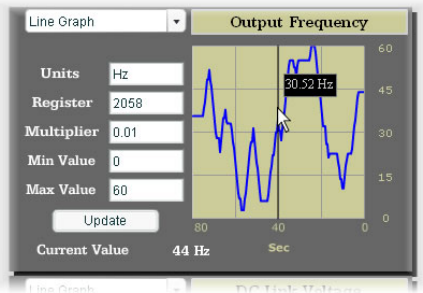

Figure 62: Line Graph
**Line Graph:** Refer to Figure 62. This type of graph implements a continuously-scrolling historical data logging line graph. Up to 80 seconds worth of historical data is available. Hovering the mouse pointer anywhere on the graph displays a tooltip which displays the current indicated value at that time.